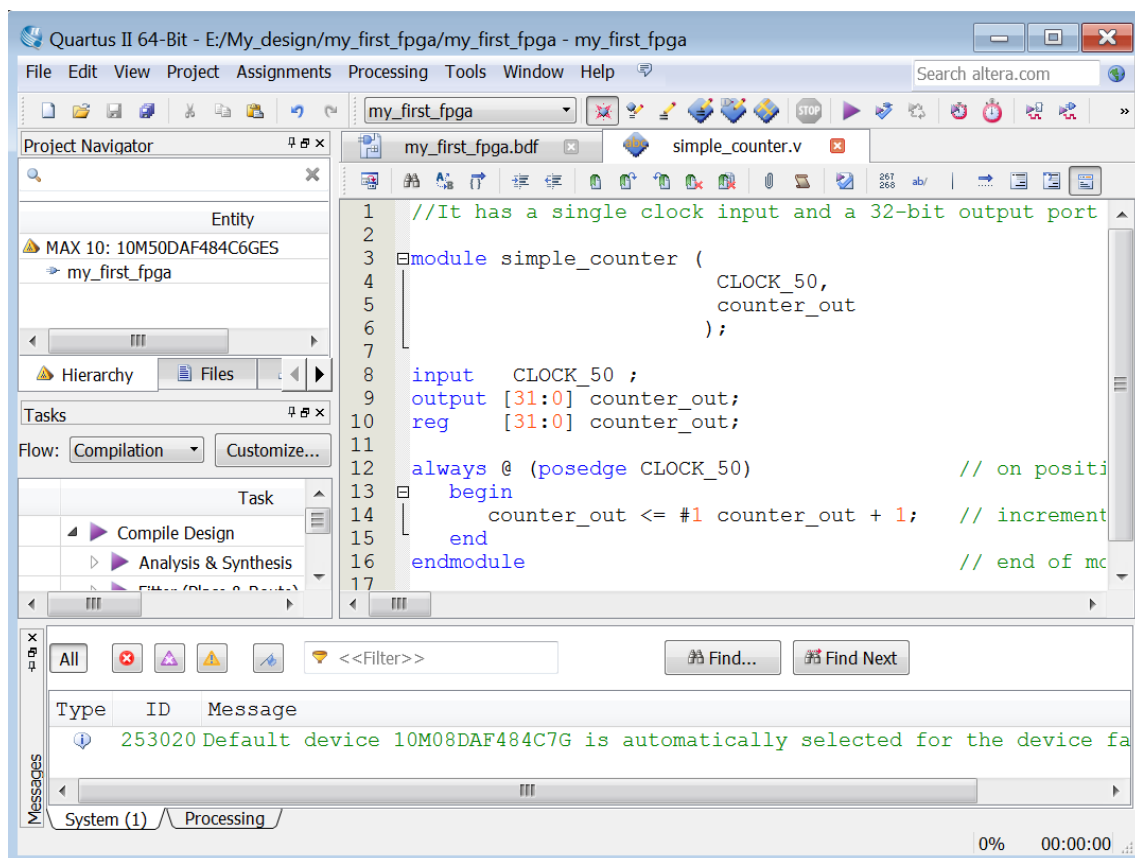

Figure 3-4 The Verilog File of simple_counter.v
8. Type the following Verilog HDL code into the blank simple_counter.v file (see **Figure 3-4** The Verilog File of simple_counter.v).